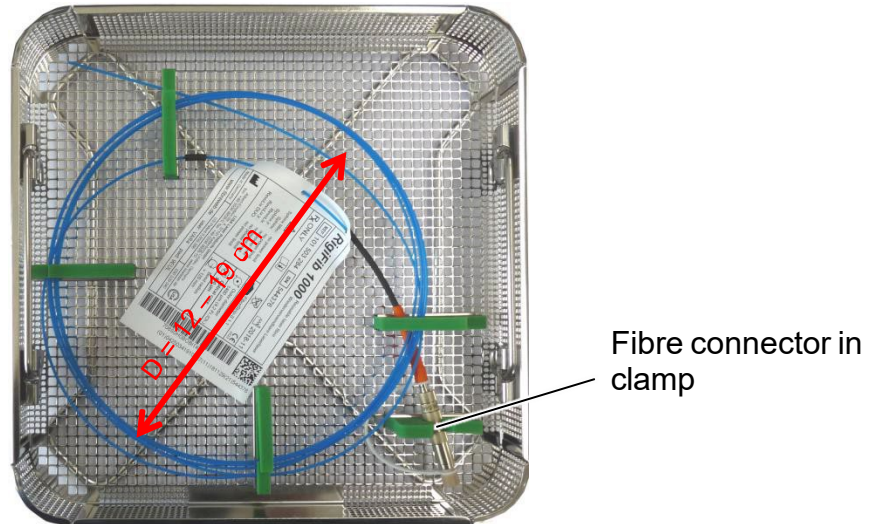

Figure 10: Laser fibre in SteriTray-F
3. First place the fibre connector to its clamp and afterwards fix the twisted fibre into the four remaining clamps. See Figure 10.